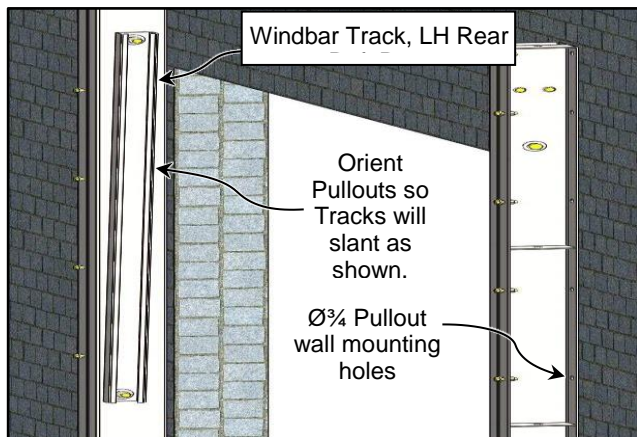

Figure 59
1. Orient the Side Column Pullouts so the top inner windbar track hole is closer to the wall than the bottom inner windbar track hole. This results in the windbar track slanting towards the wall as shown. Position the pullouts as shown. Also, the edge of the windbar tracks should end up being flush with the door jamb like the front windbar tracks. (See Figures 59 and 60)
2. Anchor the side column pullout weldments to the wall in the same fashion as the side columns per the Powerhouse Model SD Installation Manual (See “ANCHORING METHODS”). DO NOT tighten the anchors completely at this time – they will be tightened later on after the pullout spreader assembly is installed. (See Figure 59)